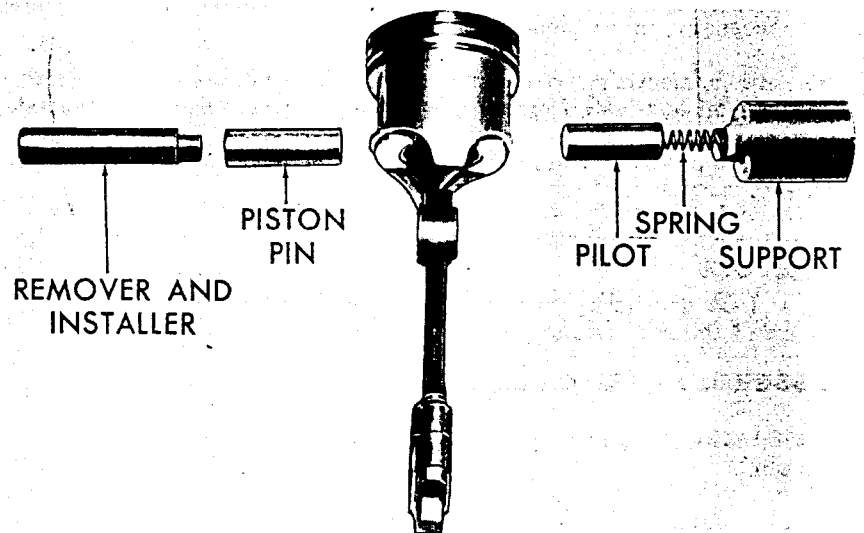

Figure 8-1-50
3. Install piston pin on installer and pilot spring and pilot in support (see Figure 8-1-50).